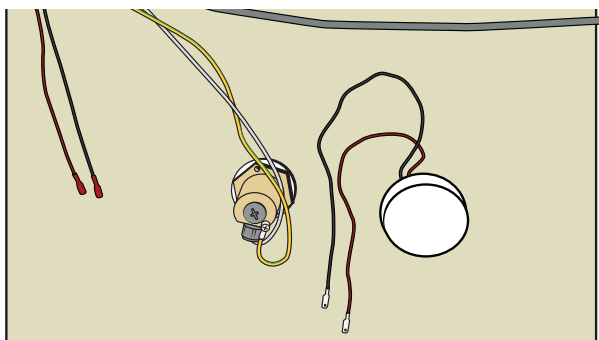

Figure 77
14. If equipped with Music, connect the speakers on the left and right side. See Figure 77.